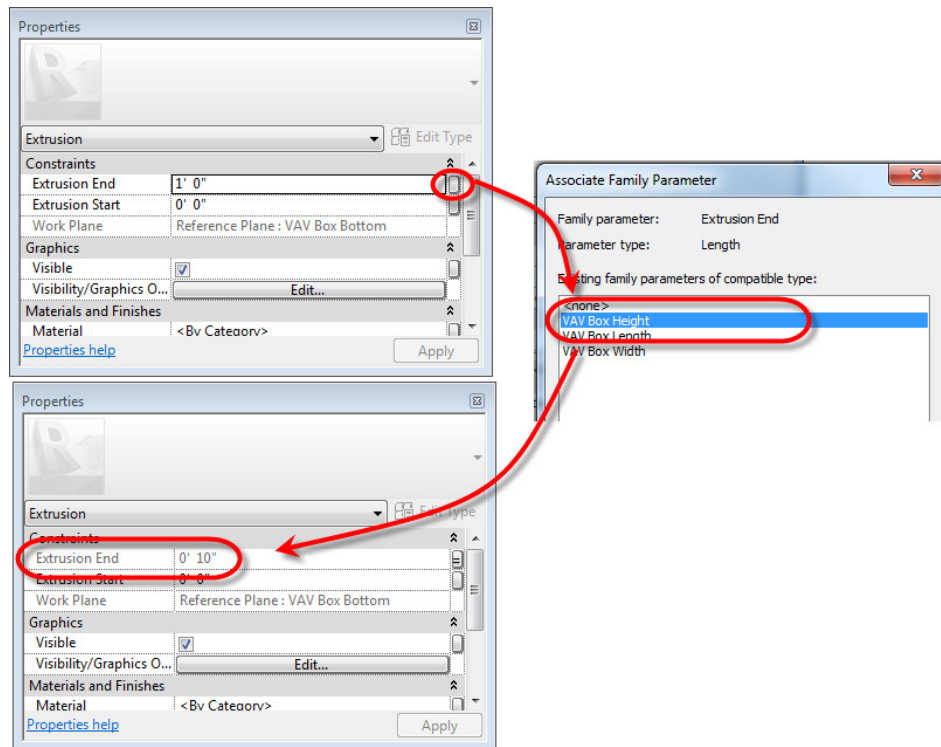

Figure 24. Linking the Extrusion End value to the VAV Box Height parameter.
35. Click the small button to the right of the *Extrusion End* value (see Figure 24).